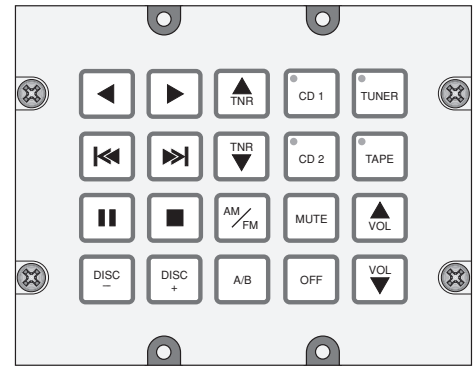

Fig. 2 Typical 4-Source Button Assignment
PLEASE NOTE: All four versions of the Waterpad appear the same before the button icons are applied. That is, all the buttons in the right 2 columns have a small dark circle in their upper left corner where LEDs are located for bank (source) indicators. These LEDs are programmed at the factory to operate depending on the Waterpad version you ordered. That is, on the WPK-1 none operate, on the WPK-4, the upper 4 operate, on the WPK-6 the upper 6 operate and on the WPK-8, all 8 operate. On the versions where the LEDs do not operate, the buttons work as normal **function** keys. When you apply **function icons** to them, the unused LEDs are covered up as in **Fig. 2**.
3. We begin this process by assigning the **source** buttons first; **CD1, TUNER, CD2** and **TAPE**. See **Fig. 2**. We do this by using Dragon Drop IR™. You may also pencil out your button designations on the blank Waterpad illustrations at the end of this manual prior to using Dragon Drop if you wish.
5. Now that all the buttons have been assigned (as shown in **Fig. 2**), it is necessary to memorize the IR commands and do the programming. Refer to the Dragon Drop IR™ Installation and Programming Instructions for this process.